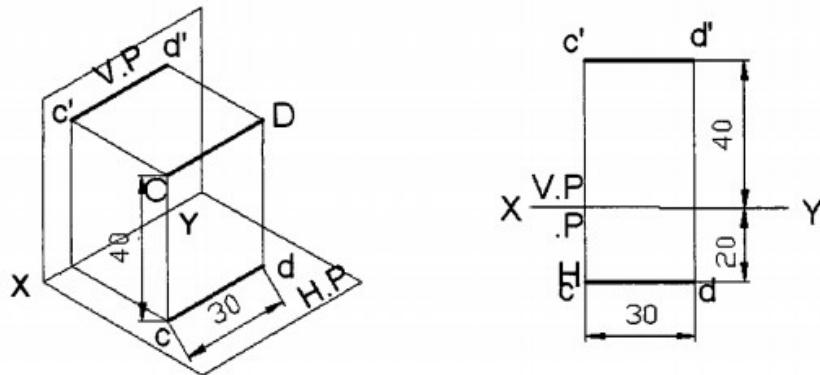

Fig. 5.18 Line Parallel to both the Planes
Solution : (Fig.5.18)
4. Top view is also true length and parallel to xy . Hence, cd parallel to xy such that $cd = CD = 30 \text{ mm}$ is the true length.(Fig.5.18).